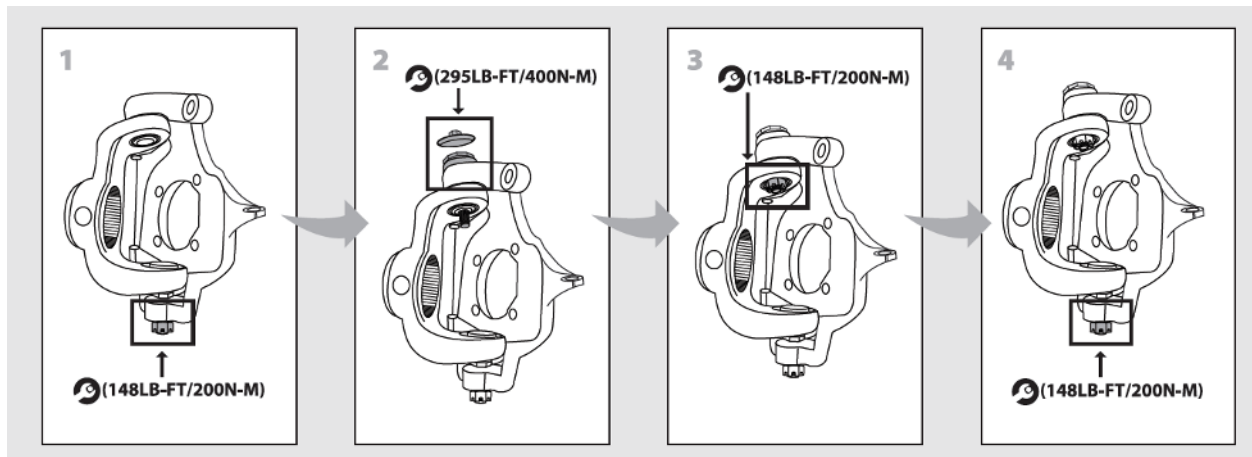

Figure 3
- Ensure to follow the torque sequence as outlined below and in **Figure 3.** It is recommended to perform this sequence with the steering knuckle in the straight-ahead position. This ensures steering knuckle is properly aligned to the axle assembly.